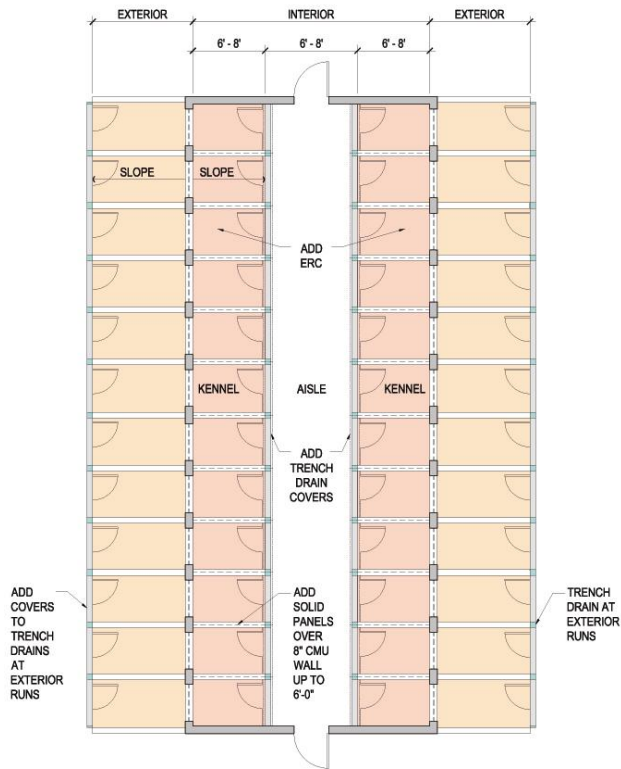

Figure 3-Trench Drains & Side panels
A.1) Trench drain covers or grates come in different widths and can be cut to fit most trenches. They are generally inexpensive items costing about \$15-\$25 per linear foot or about \$60-\$100 per 4 foot wide kennel depending on the type of grate (metal or plastic) and the design of the trench it needs to cover (are there insets to support the grate or do they need to be added?). See Fig. 3. ZURN is one of the leading manufacturers of grates their website is: www.zurn.com.